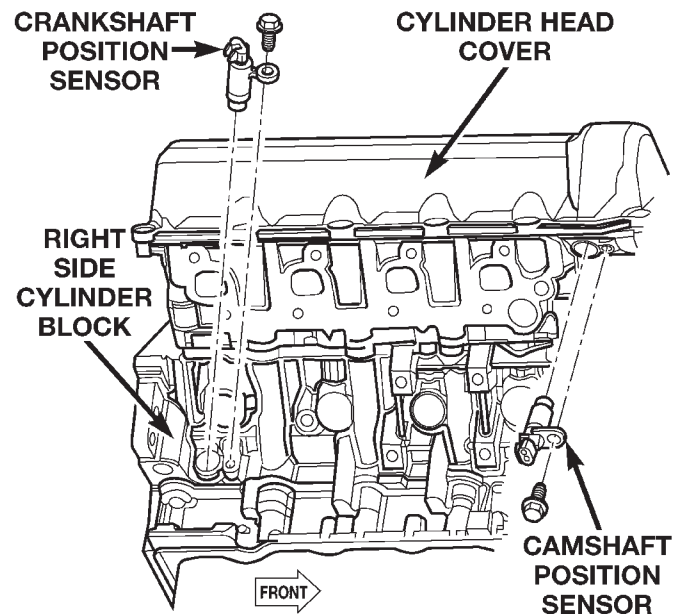
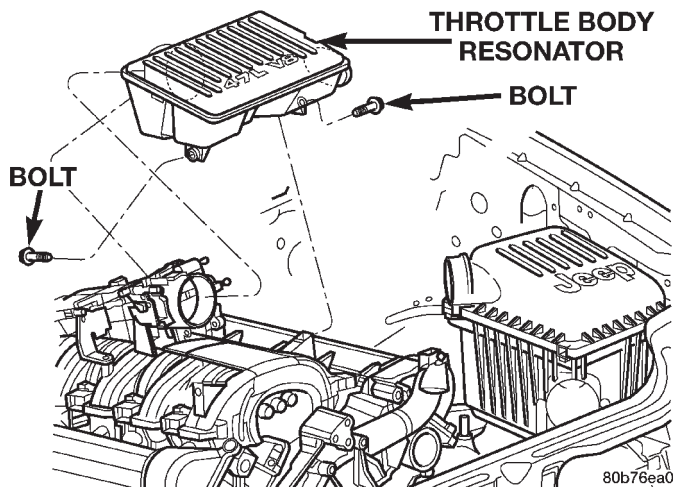

Fig. 29 Crankshaft Position Sensor
Fig. 30 Throttle Body Resonator
- (2) Remove front fascia. Refer to Group 13, Frames and Bumpers for procedure.
- (3) Remove the head lamp mounting module (HMM). Refer to Group 23, Body for procedure.
- (4) Raise vehicle on hoist.
- (5) Disconnect the O2 sensor.
- (6) Remove engine oil filter.
- (7) Remove exhaust crossover pipe from the vehicle. Refer to Group 11, Exhaust System.
- (8) Remove structural cover. Refer to Structural Cover in this section for procedure.
- (9) Remove rubber splash shield.
- (10) Drain cooling system. Refer to Group 7, Cooling System.
- (11) Remove starter. Refer to Group 8B, Starting System.
- (12) Disconnect crankshaft position sensor. (Fig. 29)
(16) Remove throttle body resonator assembly and inlet hose (Fig. 30).
- (20) Connect throttle and speed control cables.
- (21) Install throttle body resonator assembly and inlet hose (Fig. 30).
- (22) Raise vehicle.
- (23) Connect two ground straps on the lower right hand side of the engine.
- (24) Install transmission to engine mounting bolts. Tighten the bolts to 41 N·m (30 ft. lbs.).
- (25) Install torque converter bolts.
- (26) Connect crankshaft position sensor (Fig. 29).
- (27) Install starter.
- (28) Install rubber splash shield.